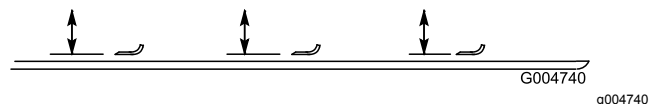

Figure 137
4. Rotate the blade until the ends face forward and backward, and measure from the inside of the mower deck to the cutting edge at the front of the blade (Figure 137).